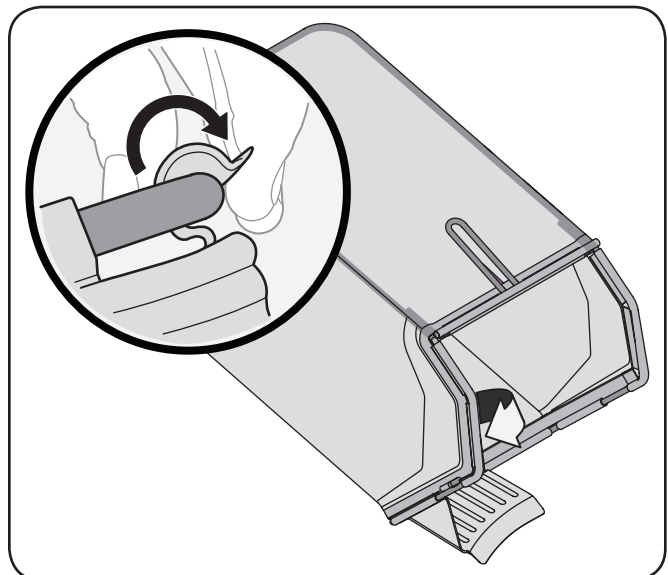

Figure 3-7
- b. Slip plastic channel of grass bag over hooks on the frame. See Figure 3-7.